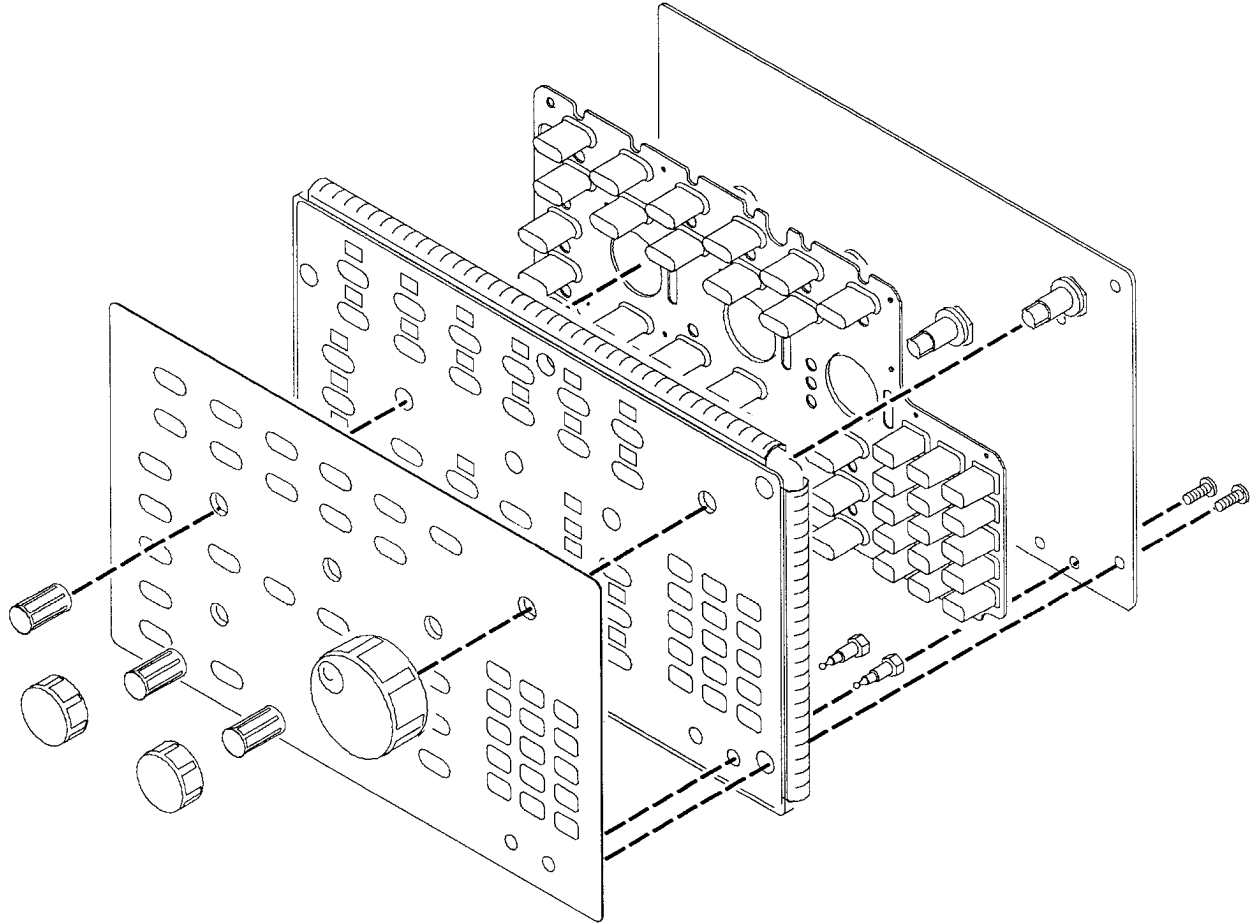

Figure 6-9: Disassembly of Front-Panel Assembly
- c. Now hand disassemble the front-panel-assembly components using Figure 6-9 as a guide. Reverse procedure to reassemble, using the same Figure 6-9 as a guide.